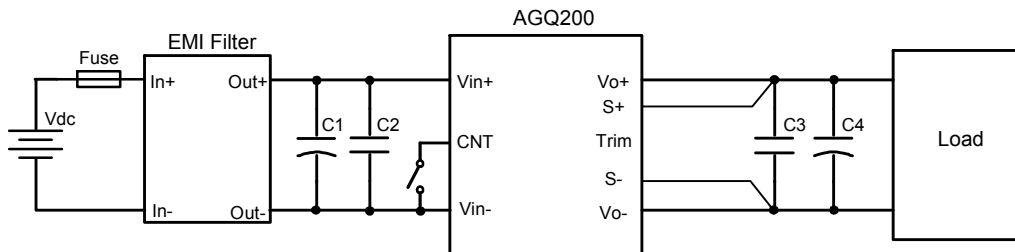

Figure 11 Typical application
Figure 5 Dynamic response for 25% load step (25% ~ 50% ~ 25%) and 0.1A/µs slew rate, (2ms/div), see Figure 11 for test configuration; CH1-output voltage (50mV/div); CH2-output current (10A/div)
Figure 6 Dynamic response for 25% load step (25% ~ 50% ~ 25%) and 1A/µs slew rate, (2ms/div), see Figure 11 for test configuration; CH1-output voltage (100mV/div); CH2-output current (10A/div)
- C1 ~ C4: See Figure 11